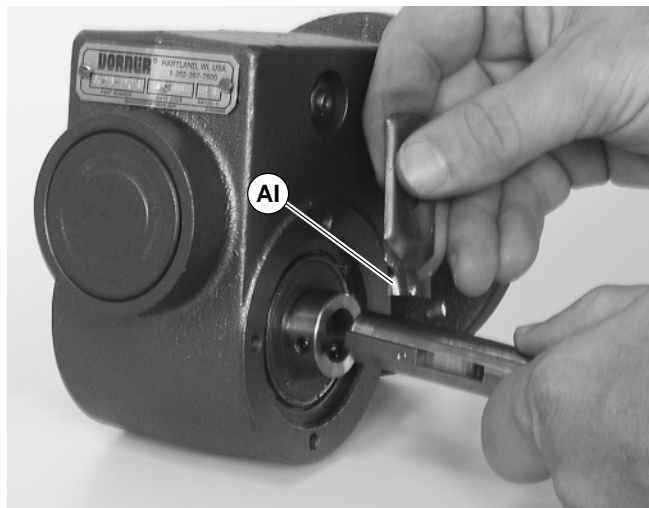

Figure 18
- Apply grease (AI of Figure 18) to shaft.